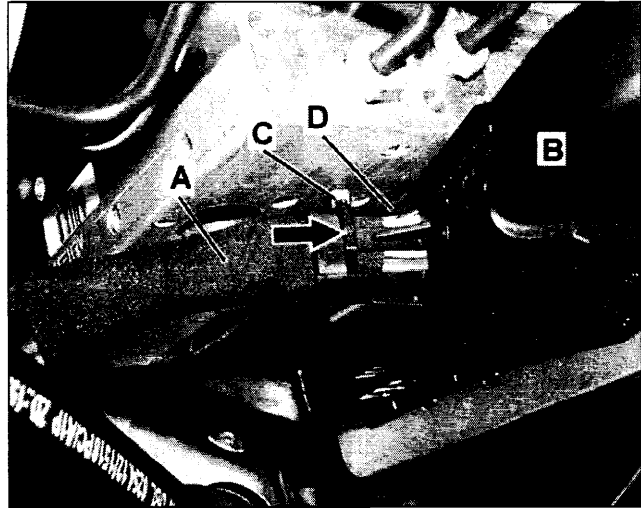

Figure 14
20. Secure the SBC wiring harness (A, Figure 14) (excluding ground wiring harness) to the SBC connector cover harness receptacle (D) using a new cable tie (arrow).